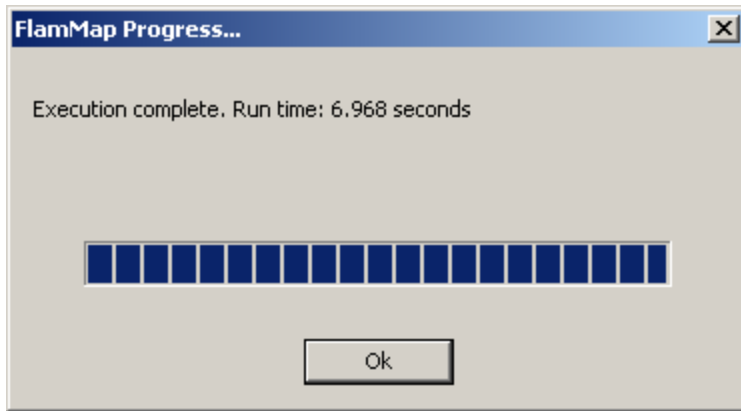

Figure 4-22— FlamMap progress meter window stating the execution is complete.
- d) A FlamMap progress meter window will open once the run has started, and it will let you know when the execution is complete (fig. 4-22). Click **Ok** to close the meter.